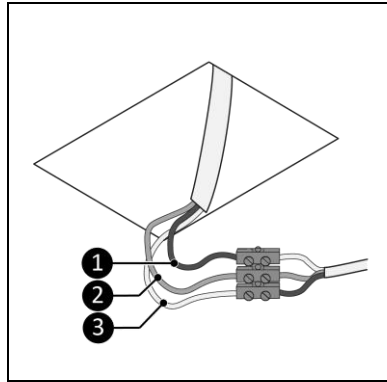

Figure 11
- Brown wire: live (Figure 11, pos. 1);
- Yellow green wire: earth (Figure 11, pos. 2);
- Blue wire: neutral (Figure 11, pos. 3).